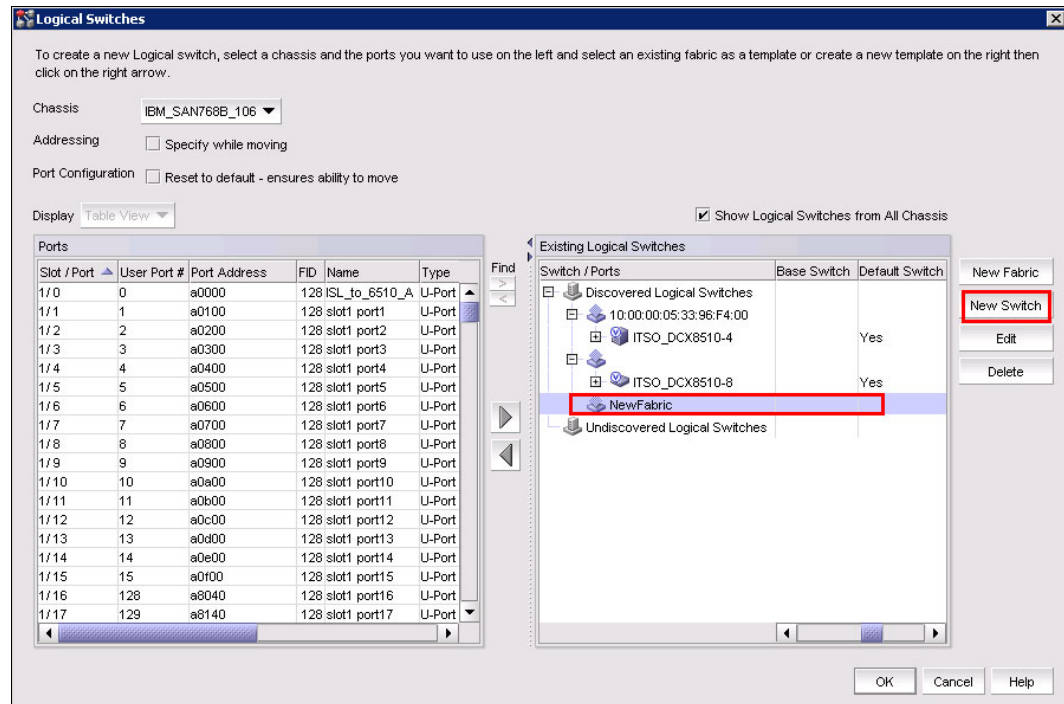

Figure 8-11 Adding a switch
3. Select the new fabric and then click **New Switch**, as shown in Figure 8-11.